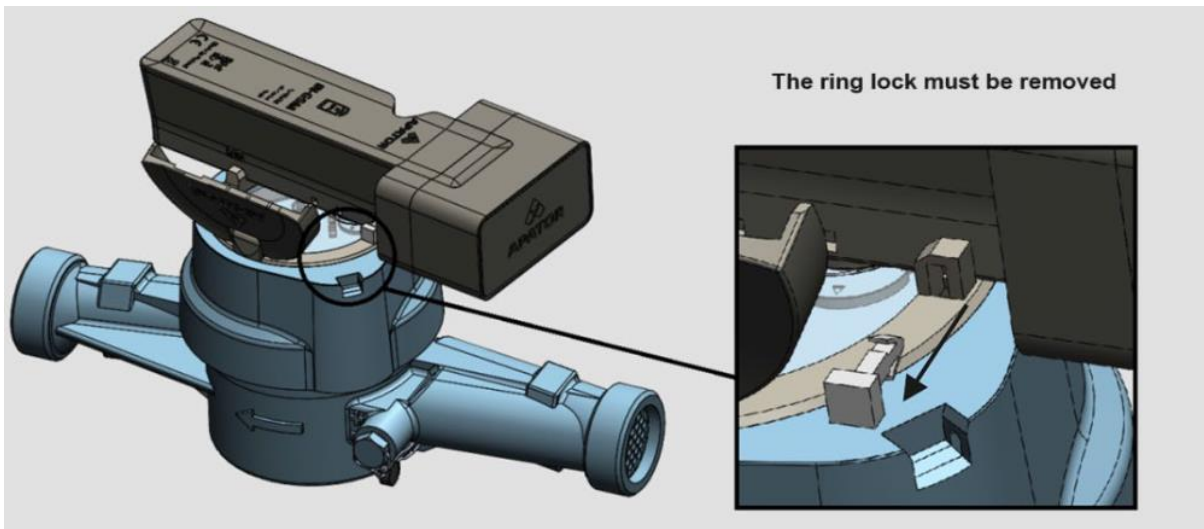

Figure 40: Removing a ring lock from a IP68 water meter
- Holding the water meter with one hand, pull out the ring lock (Fig. 40) from the counter guard latch and IN-GSM module socket.